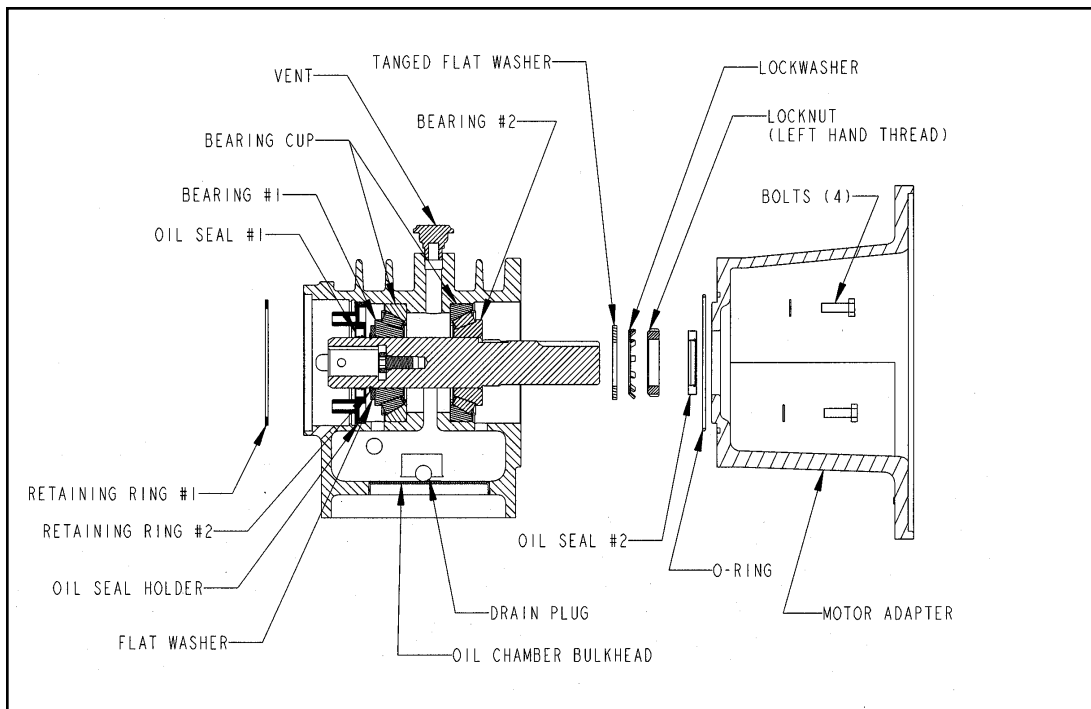

Figure 6.8
Refer to Figure 6.8 (KZ-Bearing Frame Overhaul) for construction of KZ-Bearing frames.
1. Remove the four (4) bolts and lock washers that fasten the motor adapter to the motor side of the bearing frame. Separate the adapter from the bearing frame.
2. Remove retaining ring #1 from the bearing frame as shown on Figure 6.8.
2. If removed, press bearing cone #1 (Figure 6.8, KZ-Bearing Frame Overhaul) onto the shaft, holding the bearing square with the shaft while starting. Make sure the washer behind bearing cone #1 has been replaced.
4. Reinstall the tanged flat washer, lock washer, and nut. Hand tighten the lock nut (left-handed thread) and lightly set a tang o the lock washer into a slot on the lock nut. If desired, a 3/8-16NC x 3 bolt may be inserted through a side port in the bearing frame and into the set screw hole in the end of the bearing frame shaft (Figure 6.8, KZ-Bearing Frame Overhaul) when tightening the lock nut.
11. Reinstall the oil seal holder, oil seal, and retaining ring (Figure 6.8, KZ-Bearing Frame Overhaul) making sure the seal and O-ring are lubricated with grease or oil.
Oil leaking around the bearing frame shaft indicates oil seal #2 (Figure 6.8, KZ-Bearing Frame Overhaul) is leaking.
Oil leaking from the ports in the bearing frame near the liquid end indicates oil seal #1 (Figure 6.8) is leaking.
1. Remove the flexible coupling guard, if installed (Figure 6.8, KZ-Bearing Frame Overhaul).
4. Remove the four (4) bolts and lock washers that fasten the adapter to the bearing frame. Separate the motor adapter from the bearing frame.
2. Remove retaining ring #1 (Figure 6.8, KZ-Bearing Frame Overhaul).
3. Remove the oil seal holder (Figure 6.8), which can be done as described in Section 6.3 (Step 2), or as described here by making a simple fix.
- A. Use two (2) 5/16-18 NC bolts and a flat plate (not provided) to bridge across the end of the bearing to pull out the seal holder.
- B. Drill two (2) holes, 3/8-inch (10 mm) diameter, through the flat plate. Space the holes 3.25-inch (82 mm) apart.
- C. Insert two (2) 5/16-18 NC bolts through the plate.
- D. Turn the bolts into the seal holder's two (2) bolts uniformly to pull the seal holder out straight.